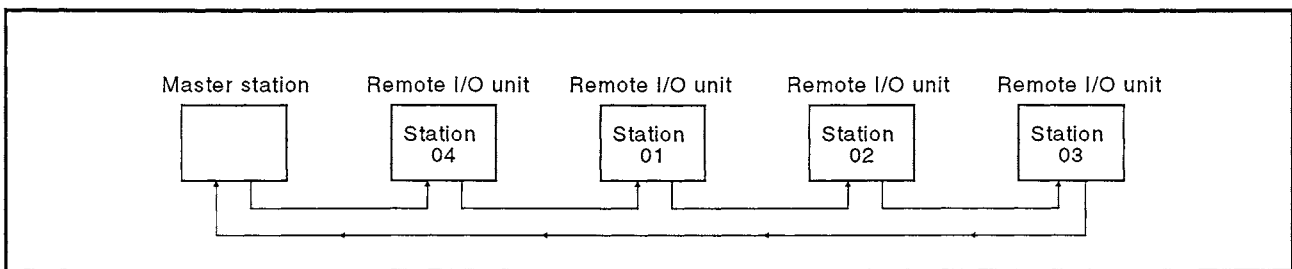

Fig. 4.3 Remote I/O Station Number Setting
- (1) Station numbers may be set between 1 and 64.
- (2) The I/O refresh range depends on the number of remote stations (in the I/O dedicated mode: address 0H in the buffer, in the extension mode: initial data ROM). For example, if 10 exists at address 0, I/O refresh is performed with remote stations 1 to 10.
- (3) Station numbers do not have to be sequential, e.g. as shown in Fig. 4.3.